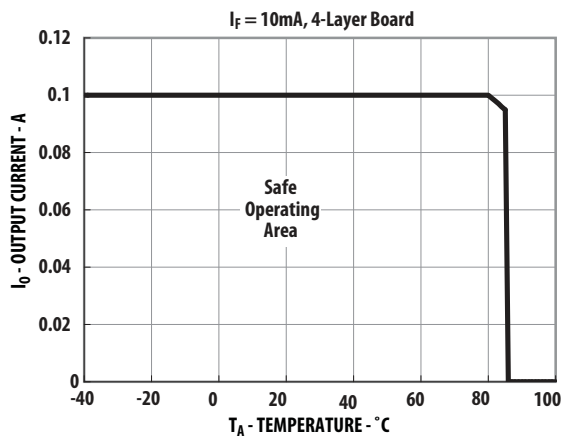

Figure 1. Maximum Output Current Rating vs Ambient Temperature (ASSR-4118-003E)
- For derating, refer to Figure 1, 2, 3 and 4.
Figure 1, 2, 3 and 4 specify the maximum average output current allowable for a given ambient temperature. The maximum allowable output current and power dissipation are related by the expression $R_{ss} = P_o(max) / (I_o(max))^2$ from which R_{ss} can be calculated. Staying within the safe area assures that the steady state MOS-FET junction temperature remains less than 125 °C.